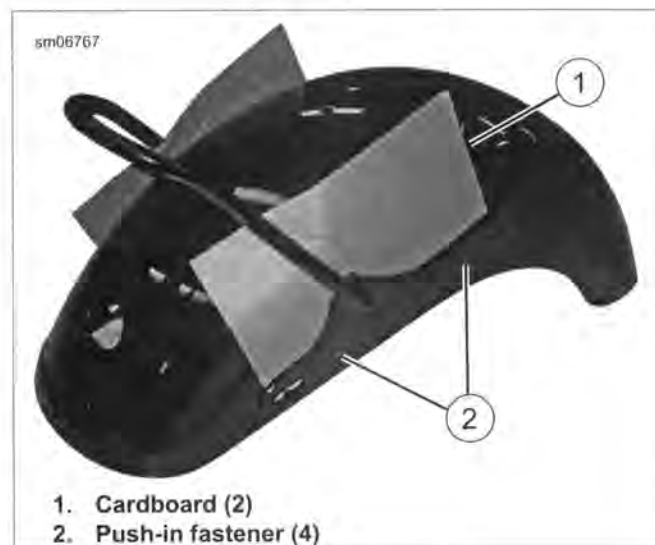

Figure 2-143. Sissy Bar
1. See Figure 2-143. Install clean cardboard (1) between the fender and sissy bar on each side.
2. Remove push-in fasteners (2) that secure the sissy bar to the fender.
4. Install sissy bar onto fender using cardboard (1) and secure to fender with **new** push-in fasteners.